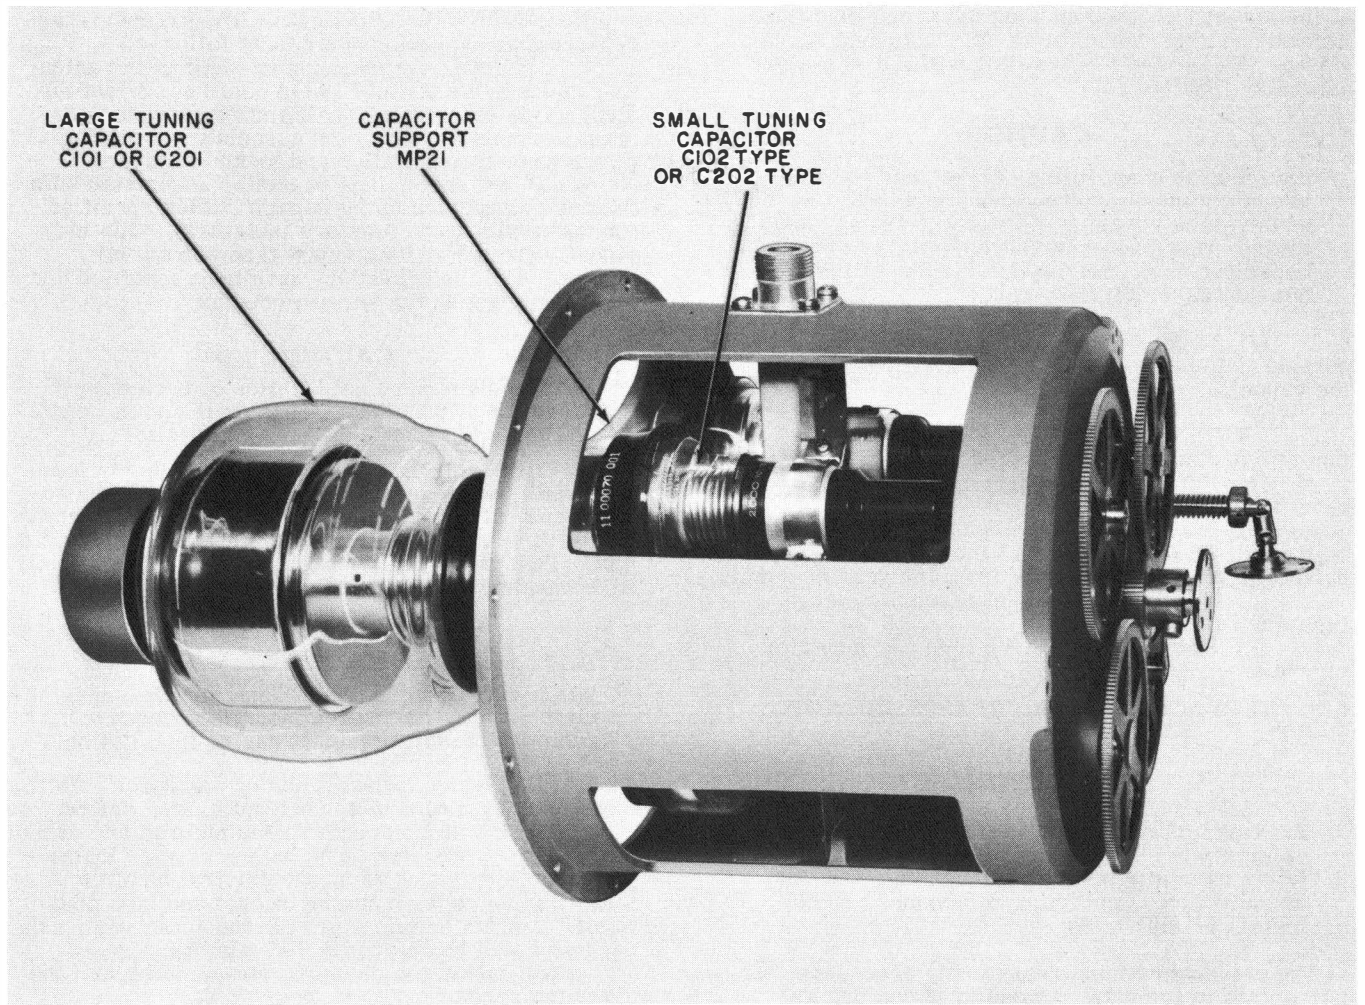

Figure 6-13. Antenna Coupler, Gear Housing Assembly
- c. DIRECTIONAL COUPLERS. - Replace directional coupler by remounting and reconnecting all cables (see figure 6-13). Determine calibration by making comparison check against known standard.
- (1) Rotate the main tuning shaft of the antenna coupler to its full clockwise position against the stop. This main tuning shaft setting must then remain unchanged until all the associated tuning capacitors have been installed and locked in place.
- (2) Set each tuning capacitor associated with the antenna coupler to the capacity value specified for that tuning capacitor (see table 6-1). The individual capacitor settings must then remain unchanged until the capacitors have been installed and locked in place in the antenna coupler.
(3) Install the large tuning capacitor by sliding it into place exactly along the shaft axis and rotating the entire capacitor without changing its capacity setting until the shaft pin mates with the coupling slot. Push the capacitor all the way in and then pull back one-sixteenth of an inch (see figure 6-13).